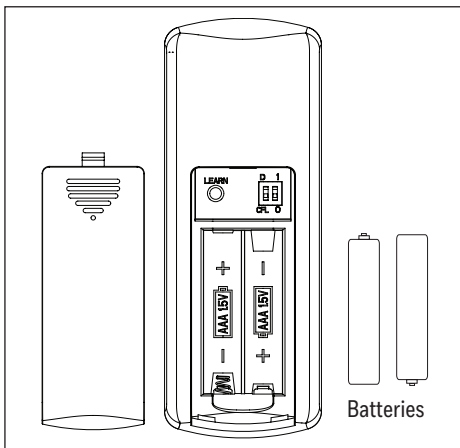

Figure 6.1
1. Use a flat-head screwdriver, if necessary, to remove the battery cover from the back of the remote found in remote pack. Insert two batteries into the remote; ensure polarity of batteries match the polarity indicated in the battery compartment -- positive (+) to positive (+) and negative (-) to negative (-). Replace the back cover and press the fan on/off button on the remote to ensure the LED indicator illuminates and the remote turns on the fan (Figure 6.1).
Remote does not work.	<ol style="list-style-type: none"> <li>1. Power surge may have cleared the memory and remote needs to be resynced to the receiver. Syncing instructions: Turn off the power at the breaker box for at least 10 seconds and then turn the power back on. Within 30 seconds, press and hold the "LEARN" button (Figure 6.1) on the back of the remote for 3 seconds. The fan will turn on at high speed signaling a successful synchronization.</li> <li>2. Insert new AAA batteries in battery compartment of the wall control.</li> <li>3. If there are several remote fans in proximity, turn the power off to those fans and re-sync the fan.</li> </ol>